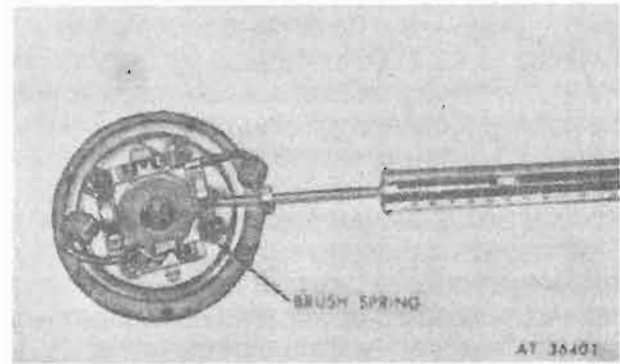

Figure 7-21. Checking spring tension.
(4) Install brush springs and check tension with spring scale as shown in figure 7-21. Pull scale on a line perpendicular to spring; take reading